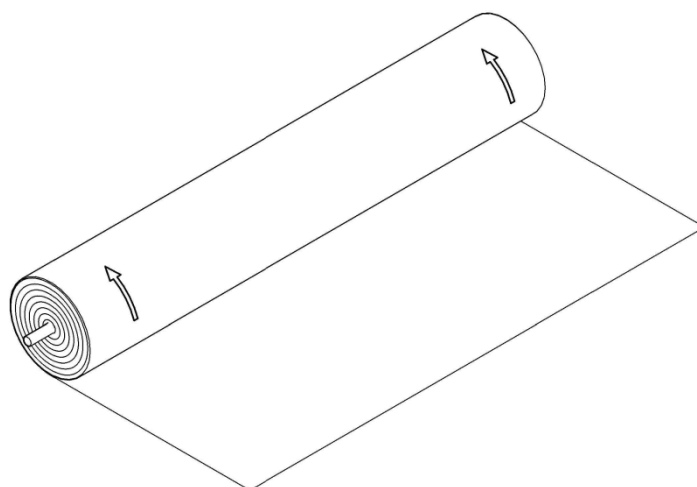

Fig. 4: Direction of unrolling
- The unrolling process shall be carried out slowly and in a controlled manner, with continuous guiding of the liner edges so as to prevent any need for subsequent adjustment (Fig. 4).